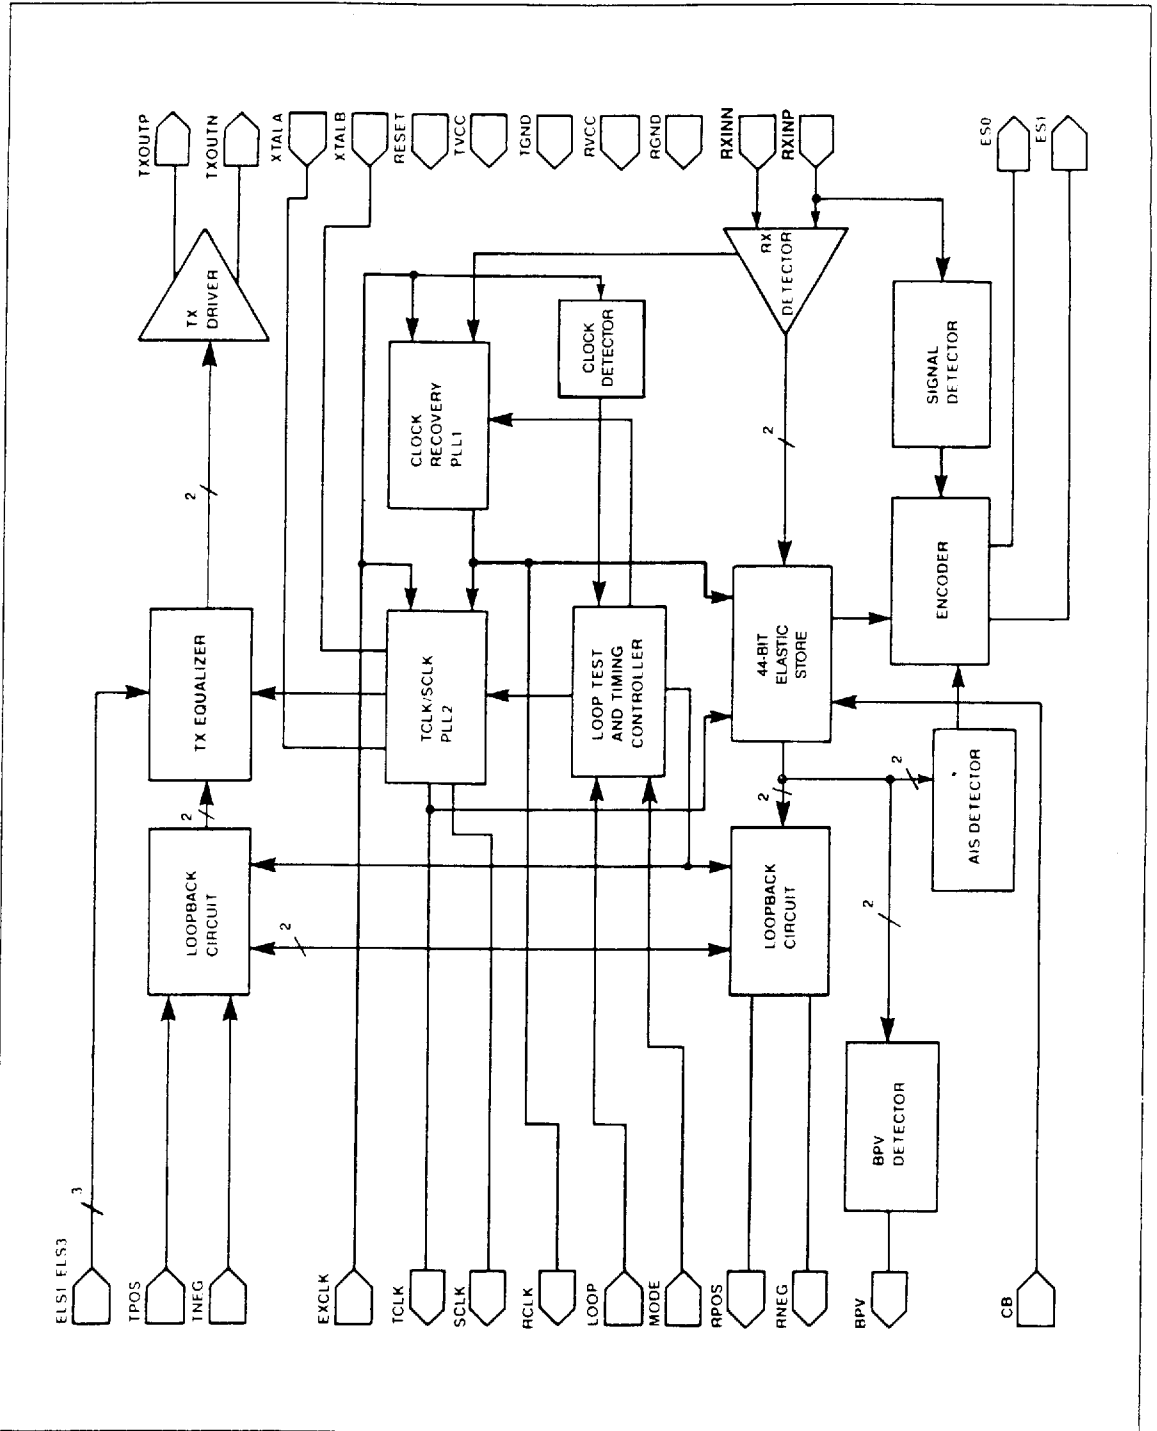
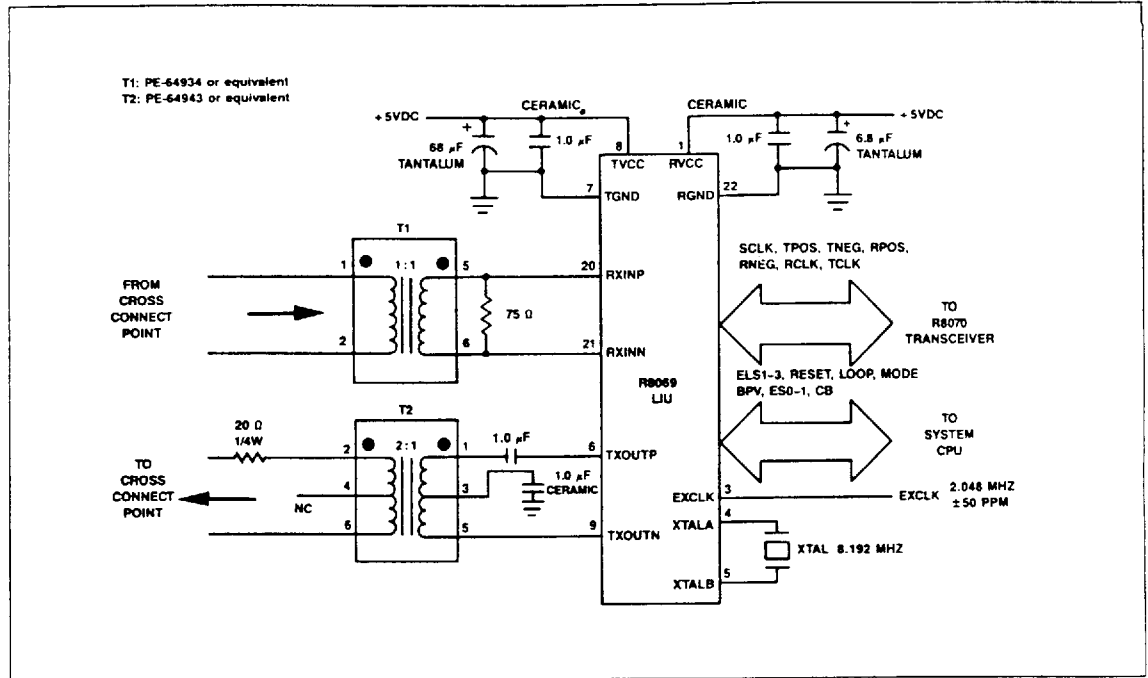

Figure 4. R8069 LIU Functional Block Diagram
Figure 5. Connection to 75 Ohm CEPT Coax Cable
The R8069 LIU contains both analog and digital circuitry which independently process transmit and receive primary rate voice or data information. Circuitry to provide master, slave, local loopback, and remote loopback is also included. A simplified block diagram of the R8069 LIU is depicted in Figure 4. Typical R8069 LIU connections in CEPT and T-1 applications are shown in Figures 5, 6, and 7.
Three encoded inputs, ELS1-ELS3, allow selection of cable length equalization and clock rates (Table 2). Equalization of cable length of 0-660 feet in increments of 110 feet is selectable for T-1 line. A 20 Ω resistor should be connected in series with 75Ω coaxial cable connector (see Figure 5 and Table 2).
2. See Figures 5 and 6.
3. If the selected equalization line code is ELS3 = H, ELS2 = H, and ELS1 = L, then a 20 Ω resistor is required at the line side of the transmit transformer (see Figure 5). This is the recommended mode in a 75 Ω PCM30 application to ensure that the pulse shape meets G.703.